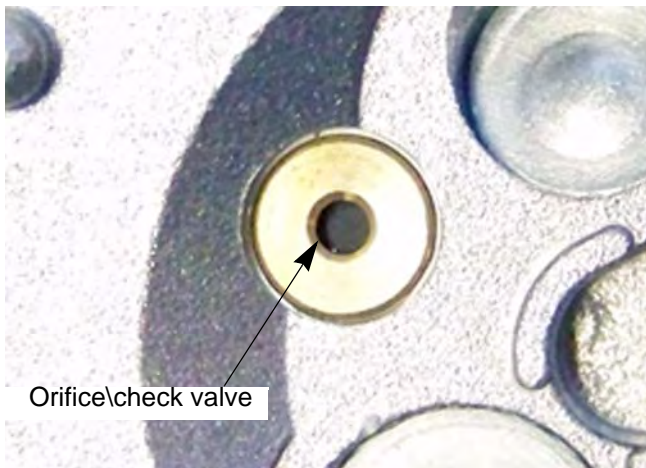

Figure 5.26
**CAUTION** Do not insert anything into the orifice to clean it. That will damage the orifice resulting in the carburetor being unreparable. See Figure 5.26.